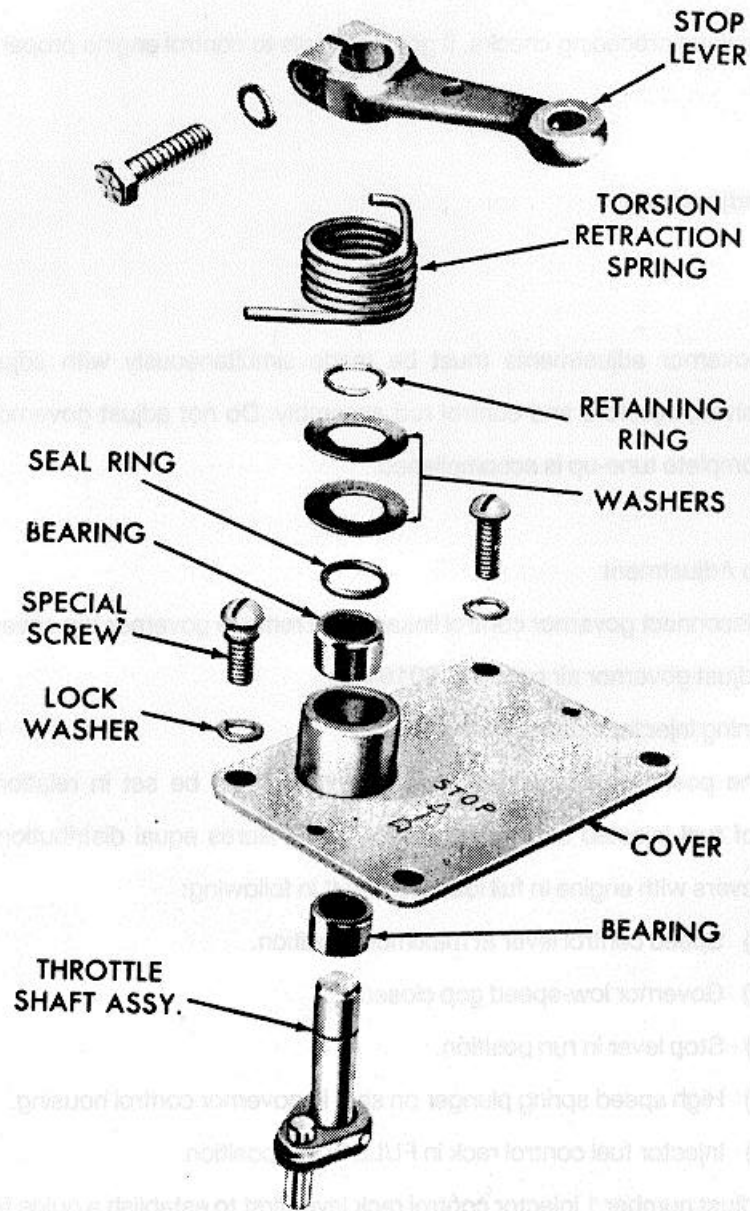

Figure 5-19. Governor Cover Details.
(1) Disconnect governor control linkage and remove governor top cover as illustrated in Figure 5-19.
(2) Adjust governor air gap to 0.0016 inch.